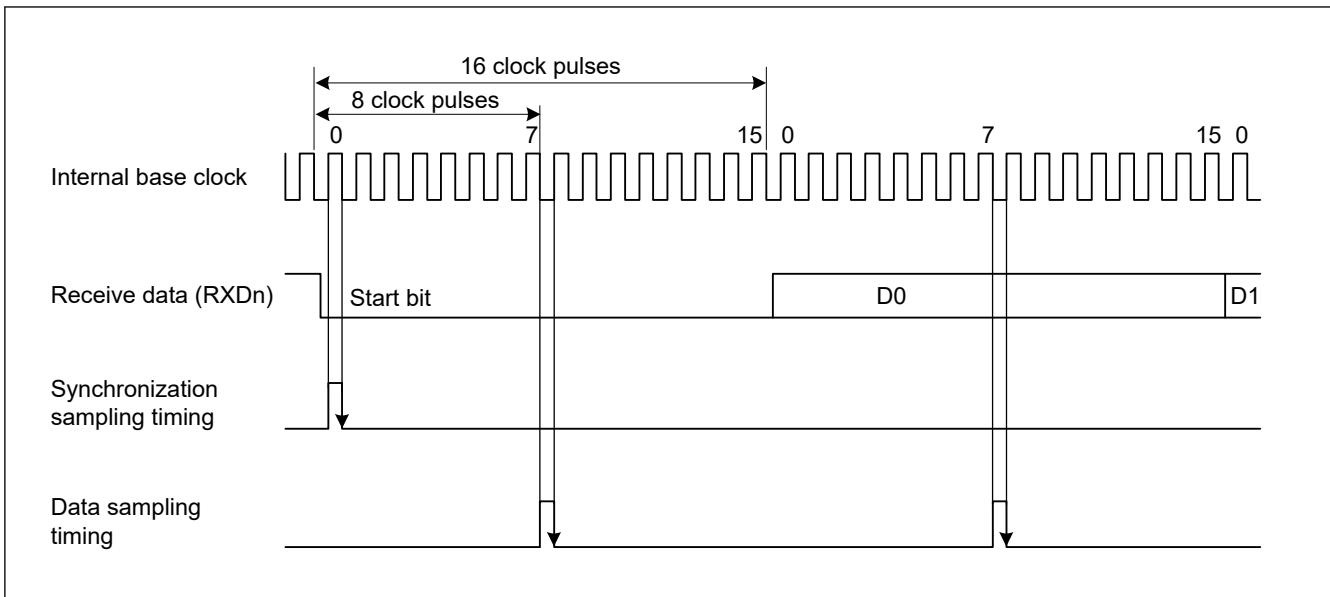

Figure 25.3 Receive data sampling timing in asynchronous mode
Because receive data is sampled on the rising edge of the 8th pulse^{*1} of the base clock, data is latched at the middle of each bit, as shown in Figure 25.3. The reception margin in asynchronous mode is determined by the following formula (1):